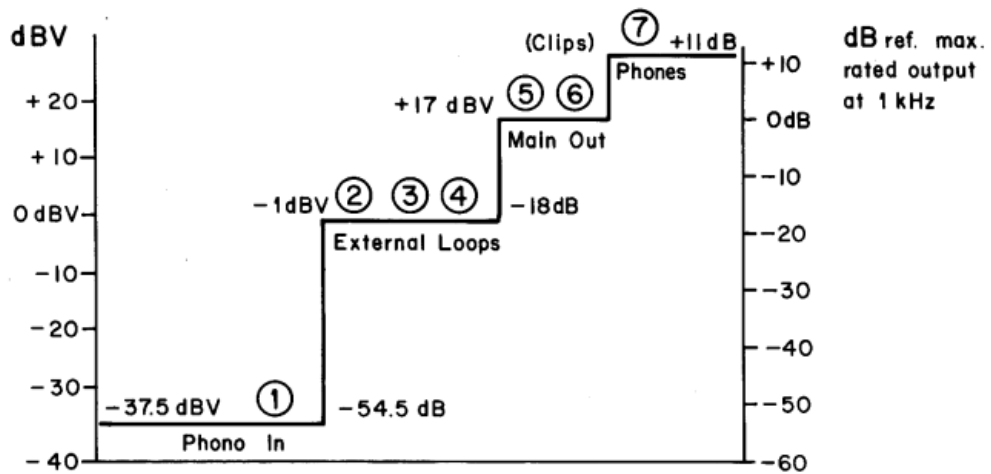

Fig. 5-2. Level Diagram.
- 5.2** Apply a 13 mV, 1 kHz signal to the Phono 1 input, left channel. At each tape out L and at external processor L observe 0.87 V, undistorted. Maximum rotation of the Volume control should give 7 V at Main Out 1 and Main Out 2, L. Left channel Phones should show clipping at 28 V peak-to-peak (10 V rms). Repeat for right channel. (See Level Diagram, Fig. 5-2.)